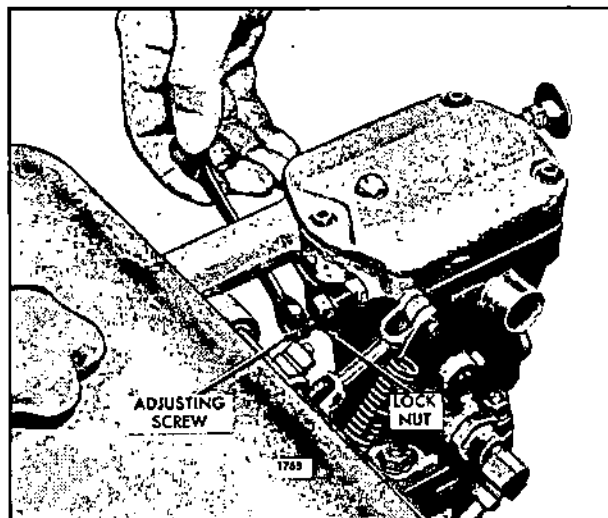

Fig. 18 - Adjusting Maximum No-Load Speed
3. Loosen the lock nut, Fig. 18, and back off the maximum speed adjusting screw approximately 5/8".
2. Turn the maximum speed adjusting screw, Fig. 18, in until the engine is operating approximately 8% above the rated full-load speed.